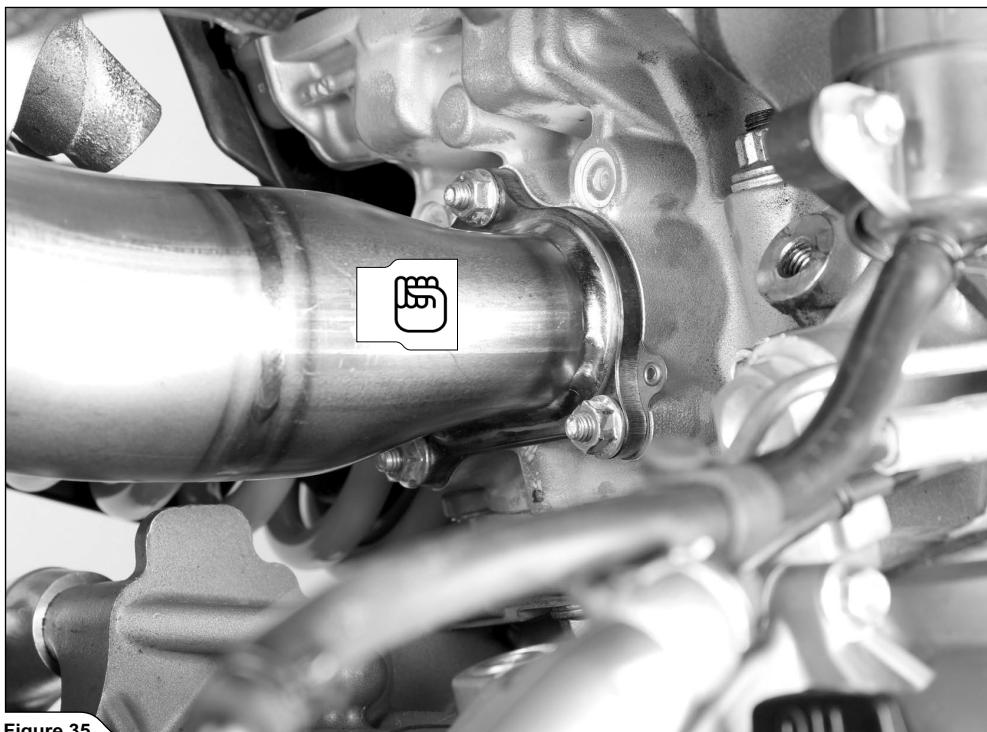

Figure 35
- Hand tighten the rear header onto the cylinder head, using stock nuts (Figure 35).